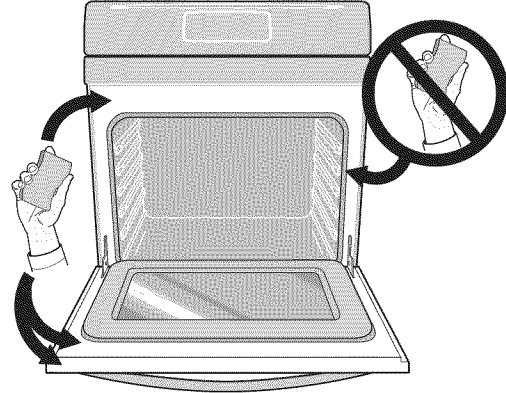

Figure 45: Oven door area to clean and not clean (gasket).
- Clean any soil from the oven frame, the door liner outside the oven door gasket and the small area at the front center of the oven bottom (Figure 45). These areas heat sufficiently to burn soil on. Clean using soap and water prior to starting Self Clean.
- Do not clean the oven door gasket (Figure 45). The woven material of the oven door gasket is essential for a good seal. Care should be taken not to rub, damage or remove the gasket. Do not use any cleaning materials on the oven door gasket. Doing so could cause damage to the door gasket.